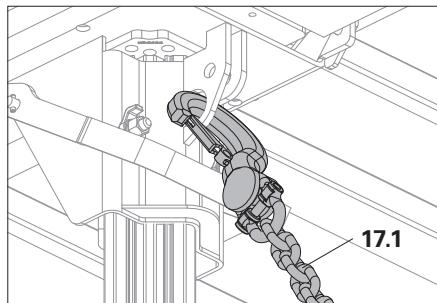
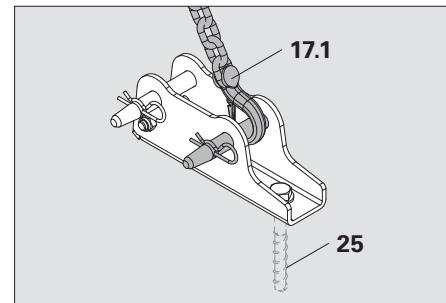

Fig. A4.03a
Fig. A4.03b
1. Insert Guardrail Holder SRU/SRZ (14.1) with the square pipe upwards into the Steel Waler SRU U120 (6).
2. Attach to the Steel Waler SRU U120 (6) using 2x Fitting Pin Ø 20 x 140 (55), and secure with cotter pins 4/1 (47).
3. Insert Guardrail Post HSGP-2 (12). Alternatively: Guardrail Post SGP. (Fig. A4.03a)
4. Attach Side Mesh Barrier PMB 260 (39) or handrail boards.
1. Push the Guardrail Holder GT 24 / VT 20 (14.2) with the square pipe downwards onto the Girder VT 20K (5).
2. Attach to Girder VT 20K (5) using 1x Fitting Pin Ø 20 x 140 (55), and secure with cotter pin 4/1 (47).
3. Insert Guardrail Post HSGP-2 (12). (Fig. A4.03b)
- Anchor Chain 3.0 kN, L = 2.5 m (17.1) with Turnbuckle 3.0 kN, M12 and Base Plate-2 for RS (18). (Fig. A4.03a + Fig. A4.03b)